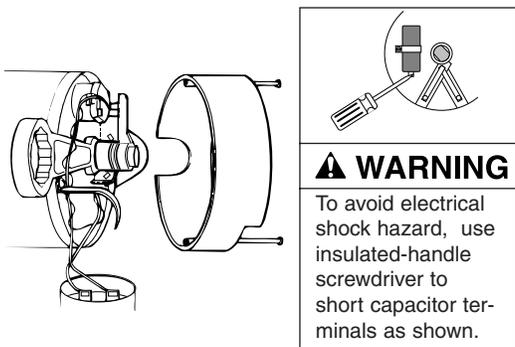

Figure 24 – Hold Shaft
- Step 10. Hold motor shaft with 7/16" open end wrench on shaft flats (Figure 24) and screw impeller onto shaft. **Be sure you do not touch capacitor terminals with body or any metal object.** Tightening impeller will automatically locate seal in correct position.